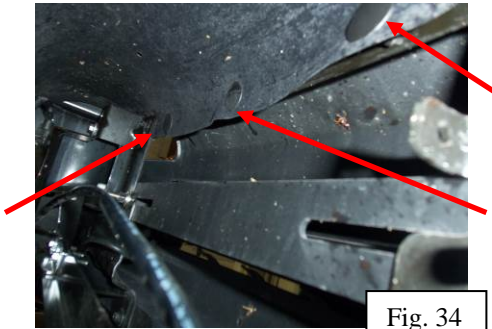

Fig. 34
27. Reinstall three plastic clips holding the rubber air deflector in place that is underneath the heat exchanger (Fig. 34).